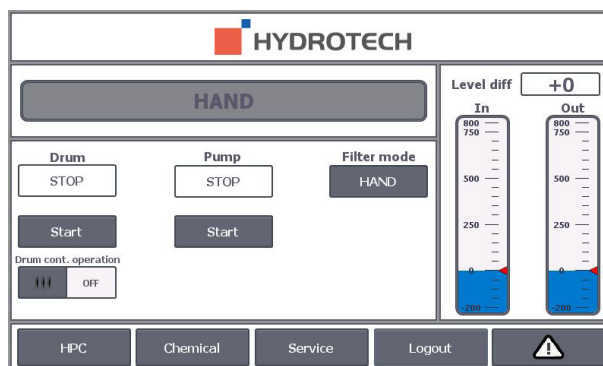

Figure 5.5 Main menu on electrical cabinet operator panel.
2. Once the mode selector has been turned to HAND, “HAND” will be shown in the operator panel main menu, see Figure 5.5. Press the drum “Start” button, see Figure 5.5.
3. Press the pump “Start” button, see Figure 5.5.